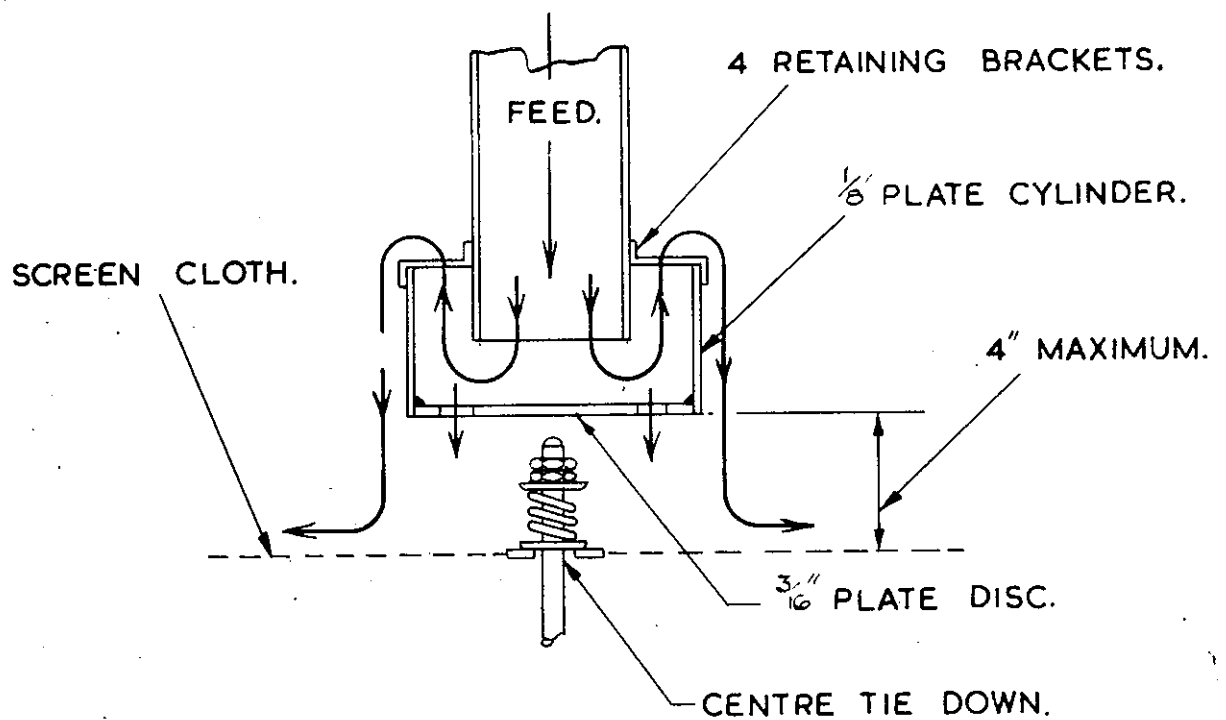

FIG. 2.
- (d) With wet screening, the velocity can be effectively reduced by employing a catch bucket of a type illustrated in Fig.2, page 4. This type of velocity reducer had proven successful for most wet screening installations, although minor changes may be required to meet specific problems. For high volume (in excess of 150 IGPM (681 litres)) de-watering service we can recommend designs for your fabrication.